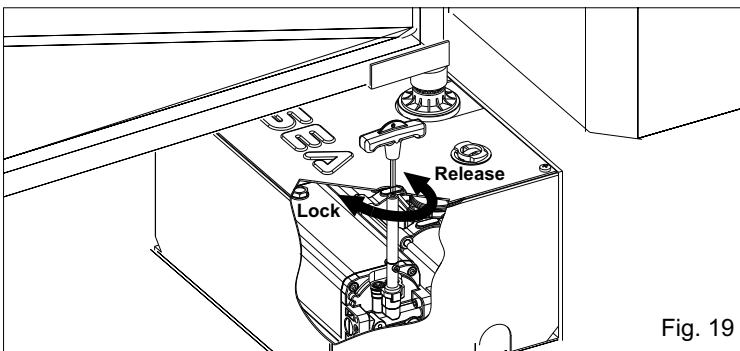

Fig. 19
- Put the key into the release extension and turn the handle of about 180° anti-clockwise (Fig. 19)